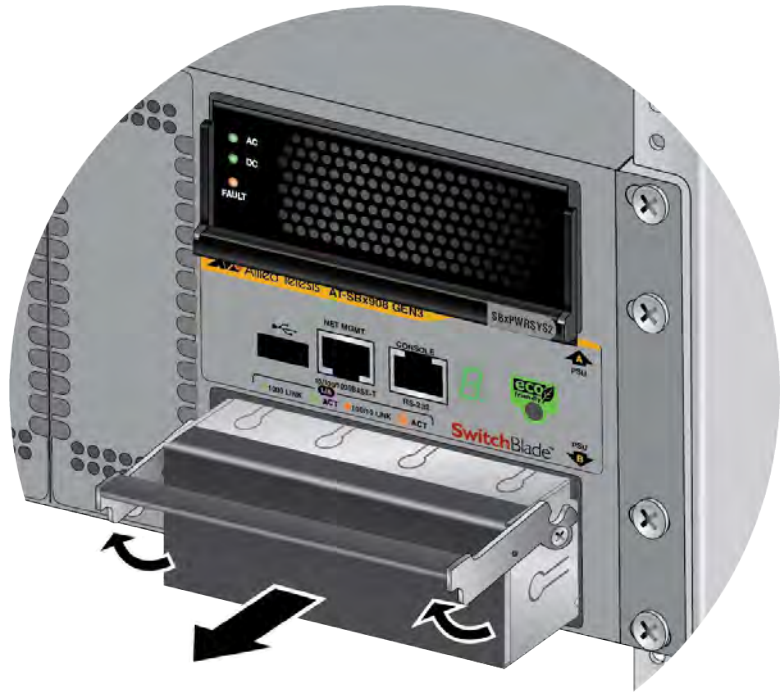

Figure 33. Removing the Slot Panel from Power Supply Slot B
2. If there is already a power supply in PSU A, lift the handle on the power supply slot panel in PSU B and slide it from the switch. Refer to Figure 33.